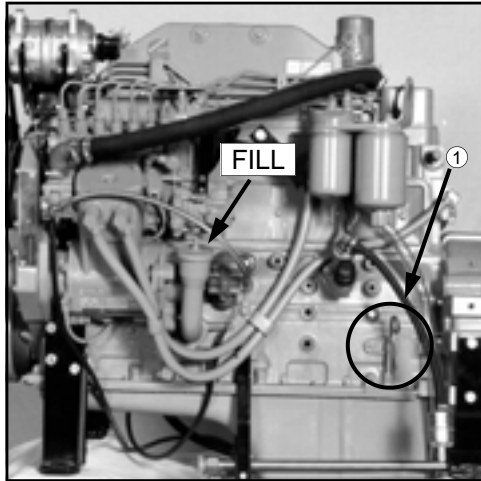

FIG 8.1
**OIL LEVEL** - The engine oil level dipstick is located on the left-hand side of the engine (fig. 8.1, item 1). Never operate the engine with the oil level below the “L” (low) mark or above the “H” (high) mark. Wait at least five minutes after shutting off the engine to check the oil level; this allows time for the oil to drain to the oil pan. Check the engine oil level daily.